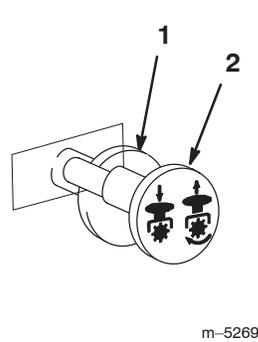

Figure 9
3. Move the PTO (power take off) switch to off (Fig. 9).